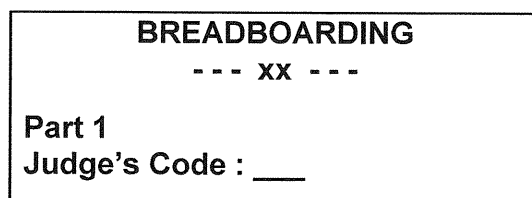

Figure 1
1. **Log-in.** Observe the display on the Nida Model 130E Test Console and ensure that it looks like the example shown in Figure 1. Verify that your contestant number replaces the [--- xx ---] shown in the example.